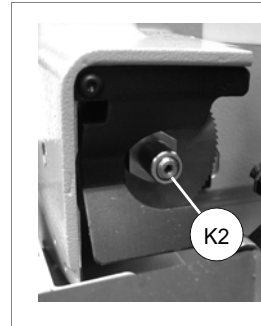

Fig. 3
- 2) Remove the cutter safety shield (see user's manual) on the key-cutting machine (fig. 3).